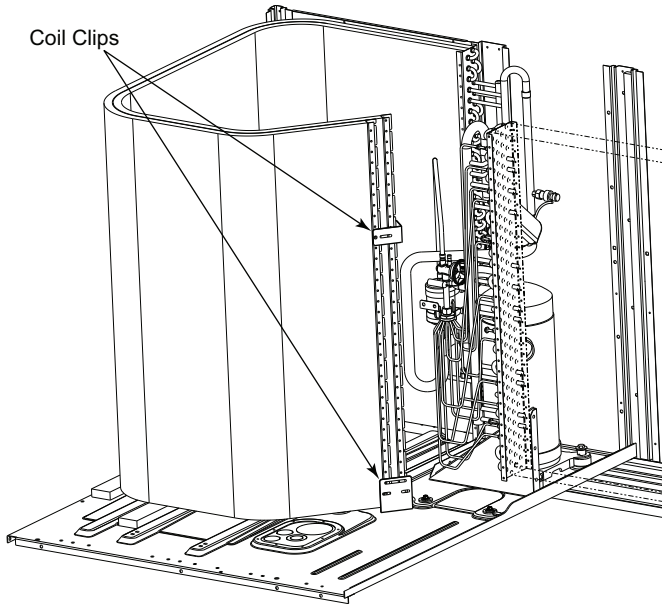

Fig. 17 — Condenser Coil Clips
5. Remove the screws from both sides of the upper and lower coil retaining clips on the hairpin end of the coil tube sheets. See Fig. 17.